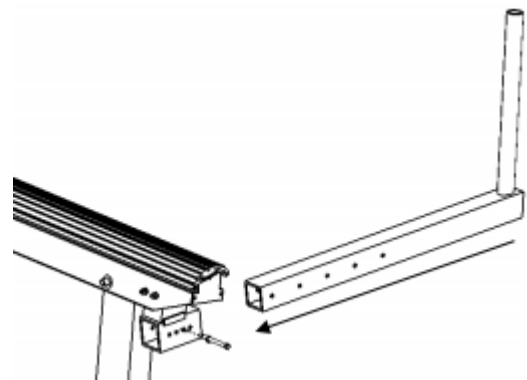

Figure 22
1. Insert the Guide Pole into the Guide pole Mounting Bracket so that the Guide Pole arm is facing outward and upward as shown in Figure 22.
3. Attach one (1) Flat Washer to one (1) Hex Bolt and insert into the mounting hole.
4. Attach one (1) Flat Washer, one (1) Lock Washer, and one (1) Hex Nut to the protruding end of the Hex Bolt and fasten with appropriate wrench until secure.
5. Repeat this step three (3) more times, once for the opposite end of the Bunk, and twice for the second Bunk.